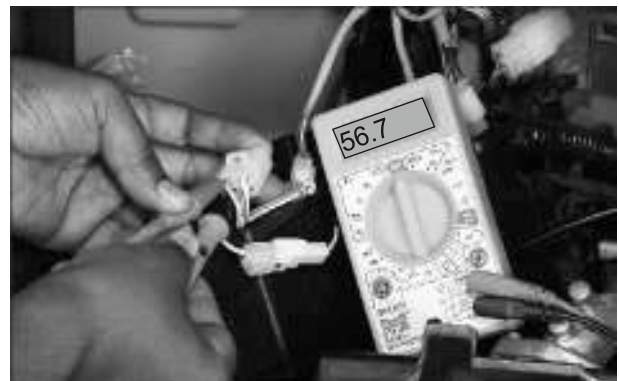

Fig. 6.18
- Connect the '+ve' probe of the multimeter to the Yellow with Red tracer (YR) wire from the magneto assembly and '-ve' probe of the multimeter to the Black with White trace (BW) wire from the magneto assembly. (Fig. 6.18)